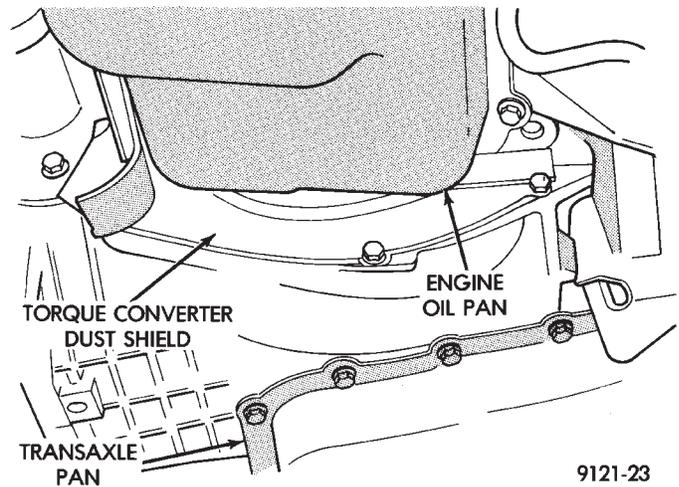

**Fig. 2 Remove Left Splash Shield**
- (5) Remove upper bell housing upper bolts.
- (6) Raise vehicle. Remove front wheels. Refer to Suspension, Group 2 to remove wheel hub nut and both drive shafts.
- (7) Remove left plastic splash to gain access to the transaxle (Fig. 2).